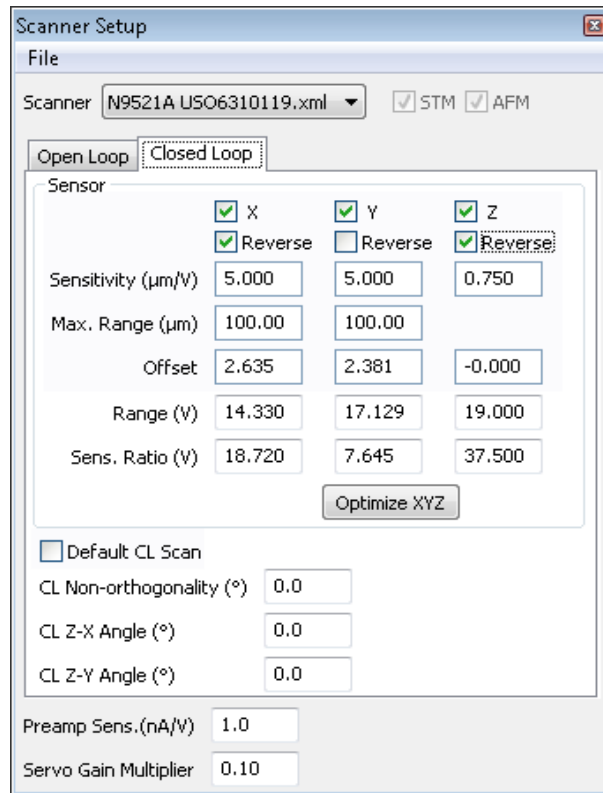

Figure 138 Scanner Setup dialog box
- 6 The values shown in Figure 138 for the X, Y and Z Sensor, Offset, and Gain are typical.